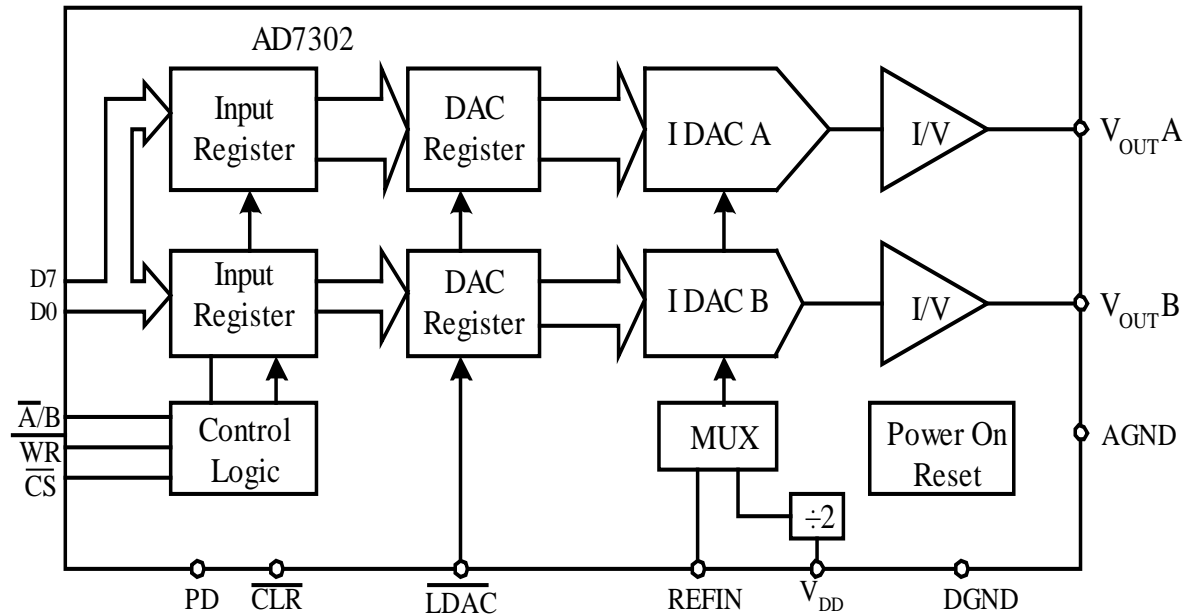

Figure 7.24 Functional block diagram of the AD7302
- The block diagram is shown in Figure 7.24. The AD7302 is designed to be a memory-mapped device. The CS signal must be low in order for this chip to work.